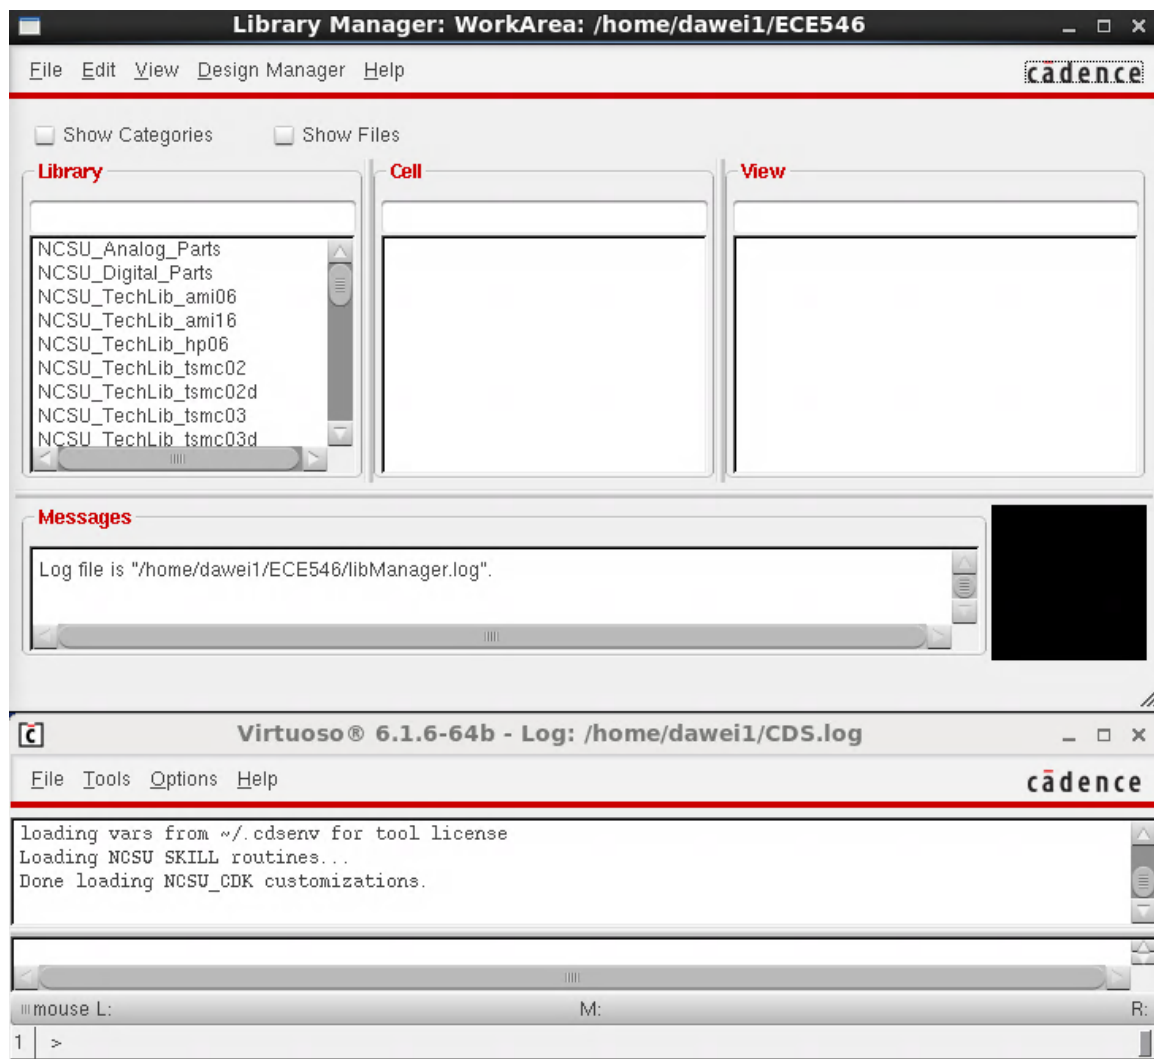
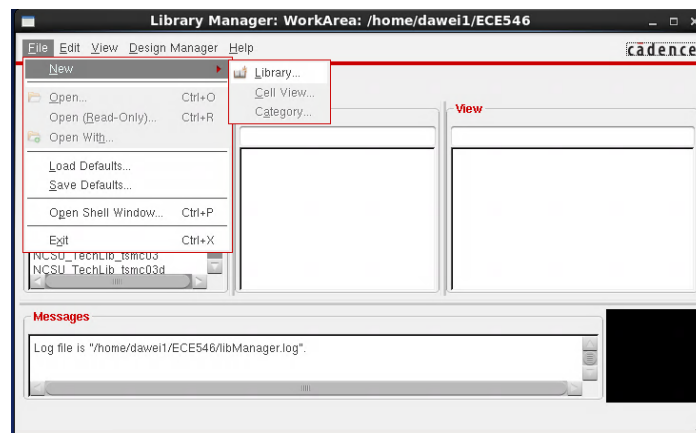

Figure 1. Window view for steps 1 and 2
Figure 2. Window view for step 4.
2. After login, go to the **ECE546** folder in your home directory from a terminal and type '**virtuoso &**'. Then Cadence Virtuoso will start. Notice that the top window in Figure 1 will be referred to as '**Library manager**' and the bottom window will be referred as '**CIW**'
3. Now you are going to create a library. First, identify the CIW window shown in Figure 1, then go to '**Tools->library manager**' a new window will pop up as shown in Figure 2.